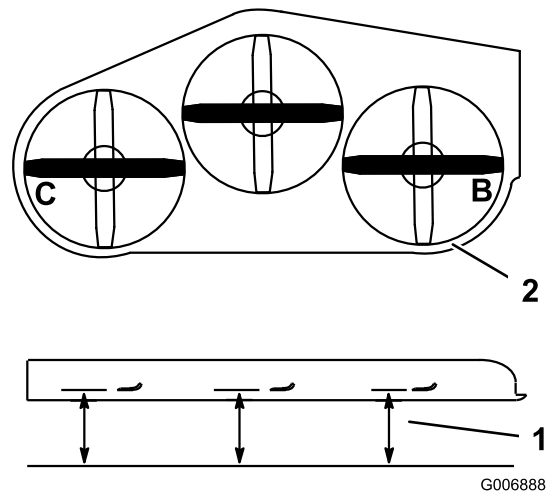

Figure 67
1. Position the **right** blade side-to-side (Figure 67).
2. Measure the right blade at the **B** location, from a level surface to the cutting edge of the blade tip (Figure 67).
4. Position the left blade side-to-side (Figure 67).
5. Measure the left blade at the **C** location (Figure 67), from a level surface to the cutting edge of the blade tip.